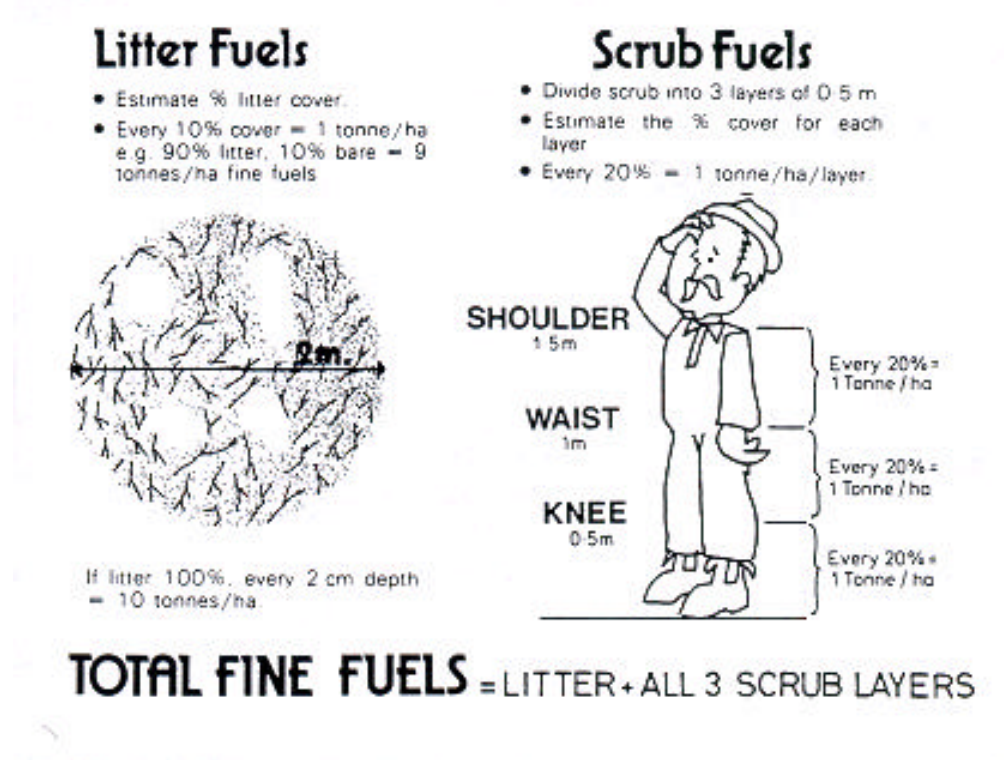

Figure 2 – Visual estimation for fuel (from Tasmania Parks and Wildlife Service 1998)
- visual assessment of fuel loads using a general guide (refer Figure 2)